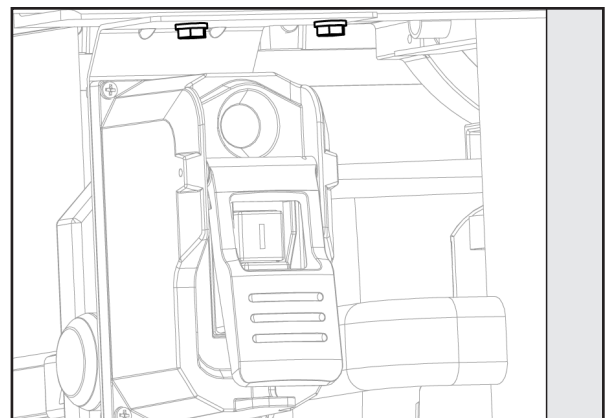

FIGURE 14
1. Attach the fence guide to the front rail using four (for 30" versions) or six (for 52" versions) 1/4-20 x 1/2" hex button head screws through the holes (B) on the bottom side of the front rail.
2. Align the two holes in the power control box bracket with the holes underneath the front rail shown in Figure 14 (C), located on the left side of the saw. Secure the power control box to the front rail using two 1/4-20 x 1/2" button head screws.